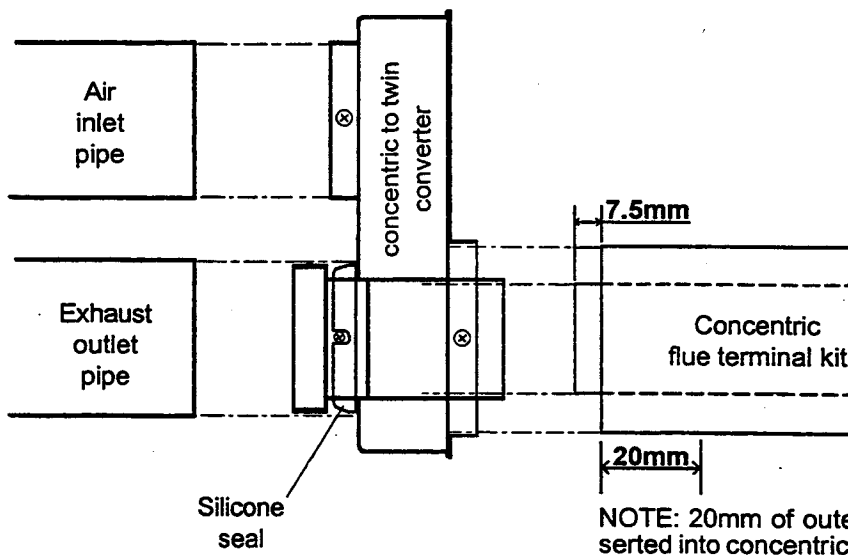

Fig. 4
- 3.2 Push fit the concentric to twin converter onto the concentric flue kit (ensuring that the outer flue tube of the concentric flue kit only pushes into the converter by a maximum of 20mm. (See fig. 4).
- 3.5 Push fit the twin flue pipes onto the concentric to twin converter ensuring that the twin exhaust pipe connects to the exhaust connection on the concentric to twin converter. (see fig. 4)